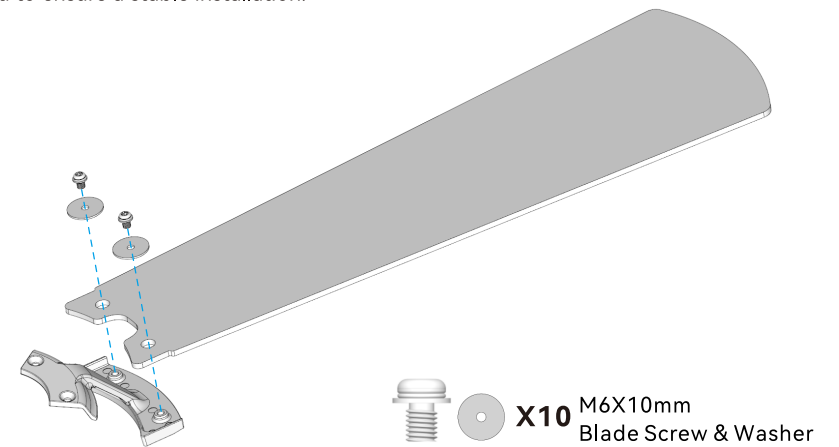

Fig. 1.1
1.1 Locate 10 blade attachment screws and washers in the hardware pack. Secure each blade to the blade bracket with the screws and washers as shown in Fig.1.1.